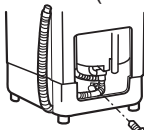

Figure 3
2. Loosen the screw till the water faucet can be accessed. Put the jointer of the water inlet hose on the faucet. See to Figure 2. (If the faucet is too large and the jointer can not be set on the water faucet, please loosen the four screws and take out the bushing in the jointer. The front end of the faucet must be smooth, otherwise it may leak water. See to Figure 3.)
3. Extend the drain hose from the other side, then fix the screw of the drain hose rack, fix the drain hose hook and hang the drain hose on the cabinet. (As indicated in Figure 3).